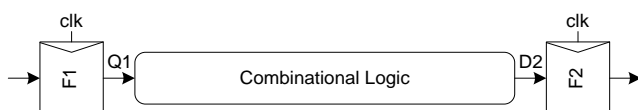

Fig. 4
- A sequential circuit using flip-flop is shown in Fig. 4. Assume the period of  $clk = 10ns$ , max data-to-q delay  $t_{pdq} = 4ns$ , min data-to-q delay  $t_{cdq} = 1.5ns$ , max clk-to-q delay  $t_{pcq} = 2ns$ , min clock-to-q delay  $t_{ccq} = 0.5ns$ , setup time =  $0.8ns$ , hold time =  $1.2ns$ , the clock skew =  $2ns$ . (5%)